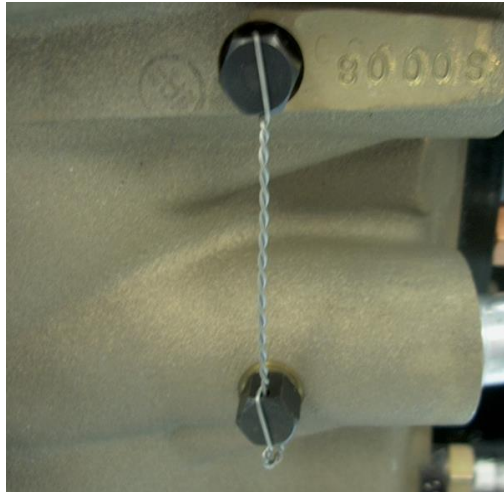

Figure 5: Typical Safety Wire Configuration for Roller Lifter Securing Screws
- 3.3.4 Safety wire cylindrical bolts in pairs as shown in Figure 5.